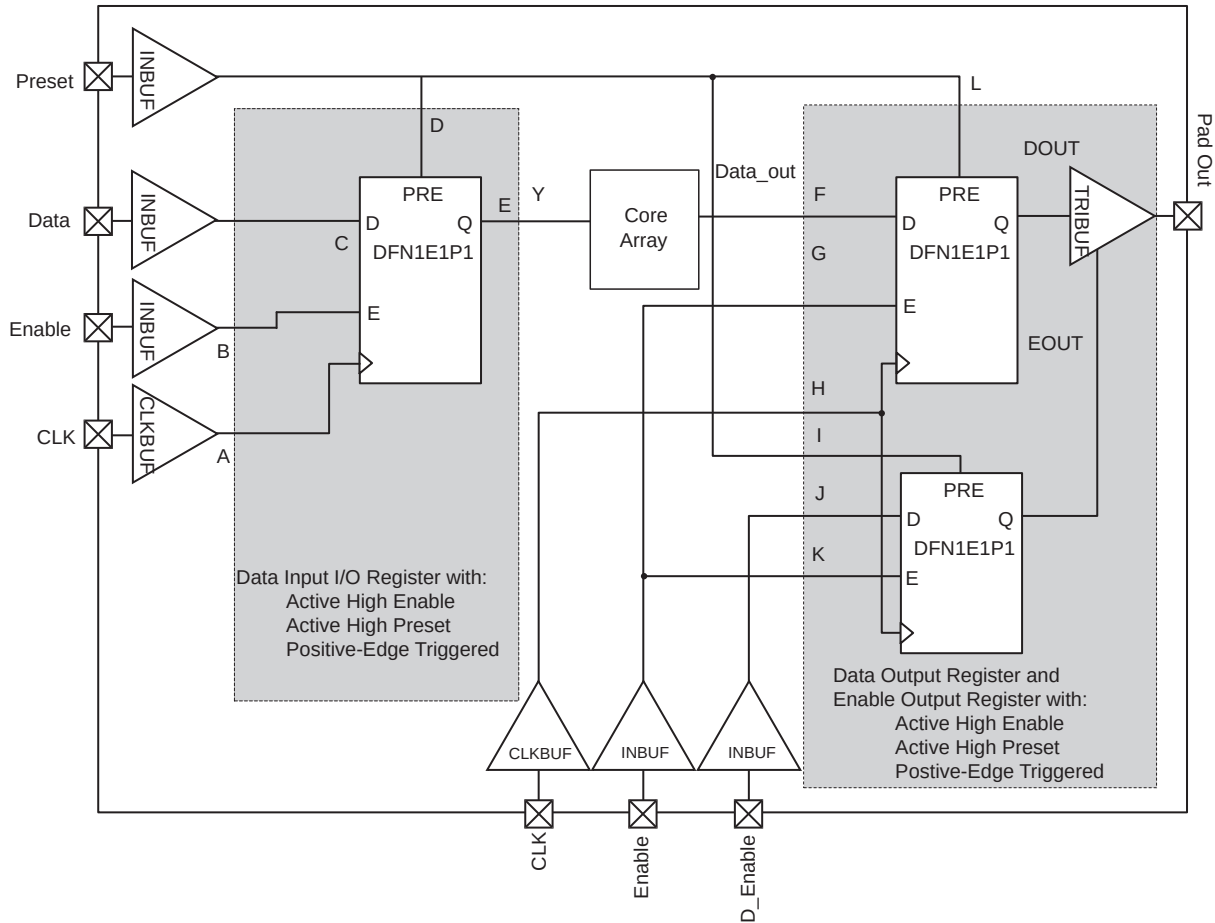

**Figure 2-16 • Timing Model of Registered I/O Buffers with Synchronous Enable and Asynchronous Preset**
**Note:** \*See Figure 2-16 on page 2-84 for more information.